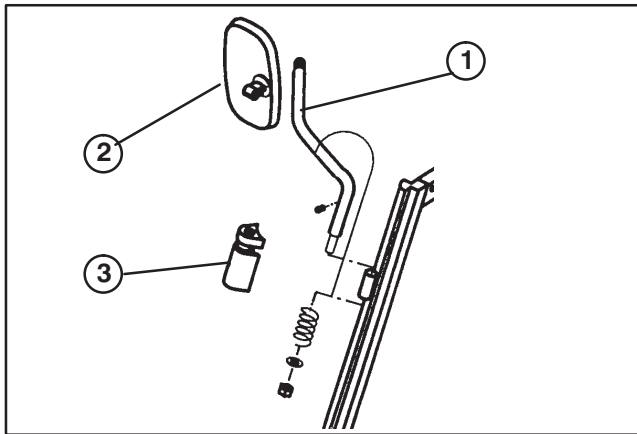

Figure 16
58. Insert right mirror support into mounting tube on right side frame and secure with a spring washer and nut (Fig. 16). Tighten nut only enough to allow rotation of mirror.
59. Attach mirror to mirror support (Fig. 16).
60. Snap cover over fasteners (Fig. 16).